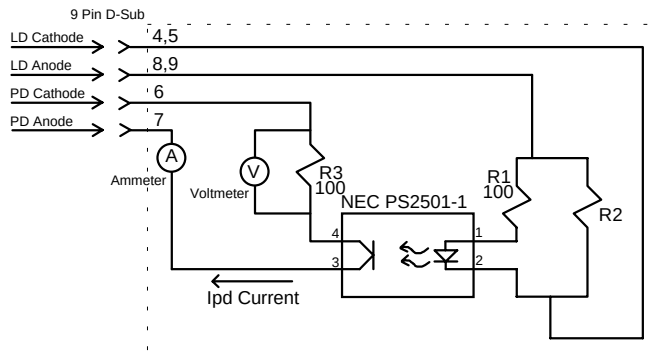

Figure 30 - I_{PD} Calibration Circuit
- a. With the laser output off, connect a calibrated ammeter to the PD Anode output of the module and connect the circuit of Figure 30 to the laser and PD outputs.
If a calibrated ammeter (with 0.1 μA resolution) is not available, place a calibrated DMM (with 0.1 mV resolution) to measure the voltage across the resistor, R3, as shown in Figure 30. Calculate the current in the following steps by using Ohm's Law:
- a. With the laser output off, connect a calibrated ammeter to the photodiode anode output of the module and connect the circuit of Figure 30 to the laser and photodiode outputs.
If a calibrated ammeter (with 0.1 μ A resolution) is not available, place a calibrated DMM (with 0.1 mV resolution) to measure the voltage across the resistor, R3, as shown in Figure 30. Calculate the current in the following steps by using Ohm's Law: